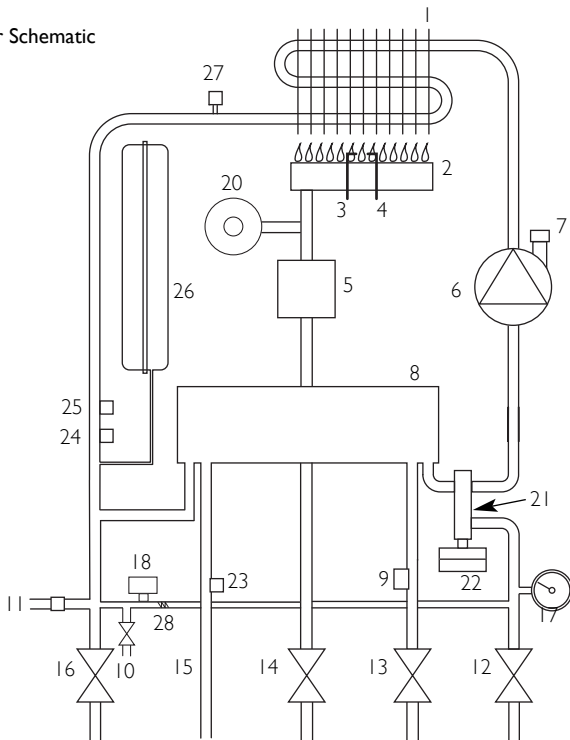

Fig. 2
3.1 Central Heating Mode (Fig. 2)
3.2 Domestic Hot Water Mode (Fig. 2)